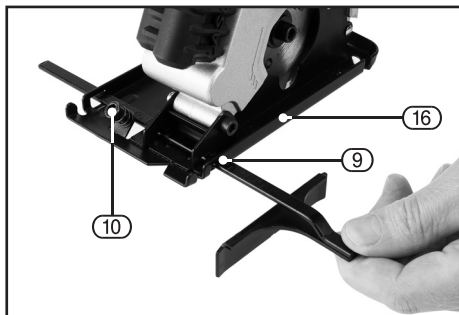

FIG.8
9.3 SETTING THE PARALLEL GUIDE FENCE - FIG .8